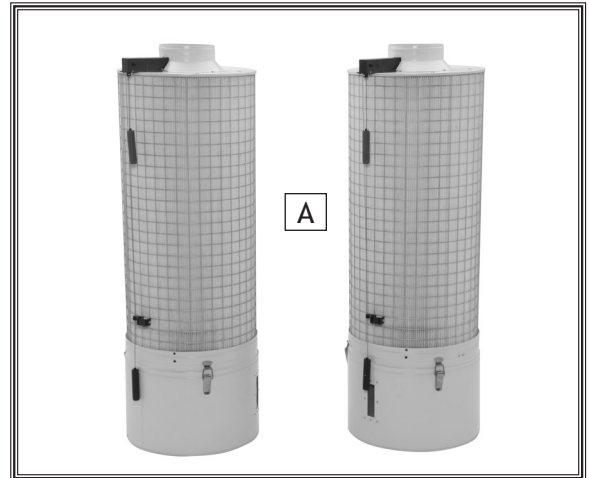

Figure 12. Filter box contents.
- Contents of Filter Boxes (Figure 12):**